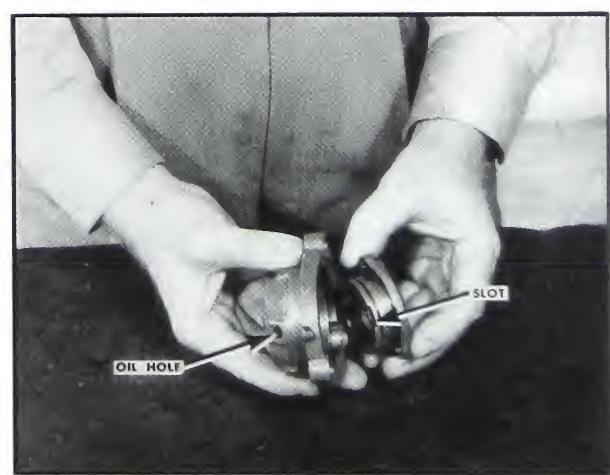
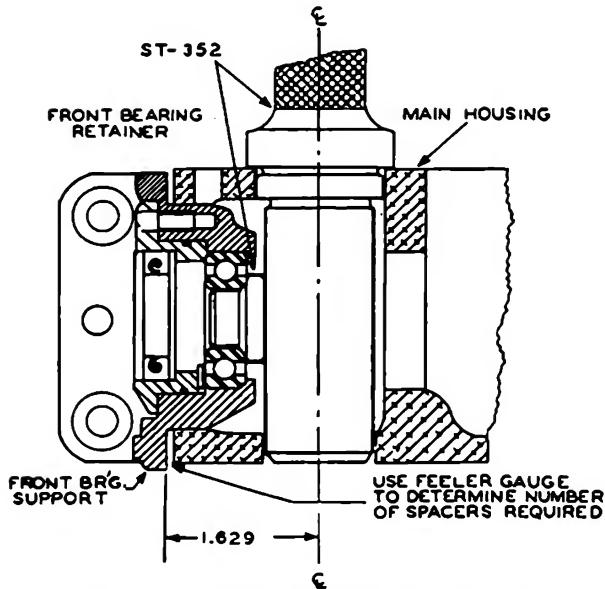

Fig. 5-315. Replace oil seal retainer
Fig. 5-317. Determining positon of camshaft
7. Press the front bearing retainer in the bearing support and secure with the three capscrews. Align notch on retainer with hole in support. Fig. 5-315.
8. Using the front bearing support and ST-352 assembly gauge, determine the amount of gaskets needed between the front bearing support and the main housing to set the camshaft in the proper position. ST-352 tools are used in place of actual parts to determine the correct position as shown in Fig. 5-315 and Fig. 5-317.